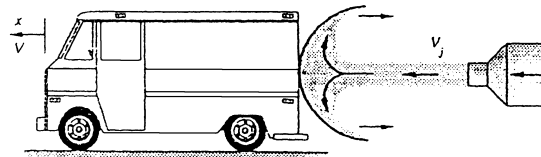

Fig. P3.82
**3.82** The model car in Fig. P3.82 weighs 17 N and is to be accelerated from rest by a 1-cm-diameter water jet moving at 75 m/s. Neglecting air drag and wheel friction, estimate the velocity of the car after it has moved forward 1 m.